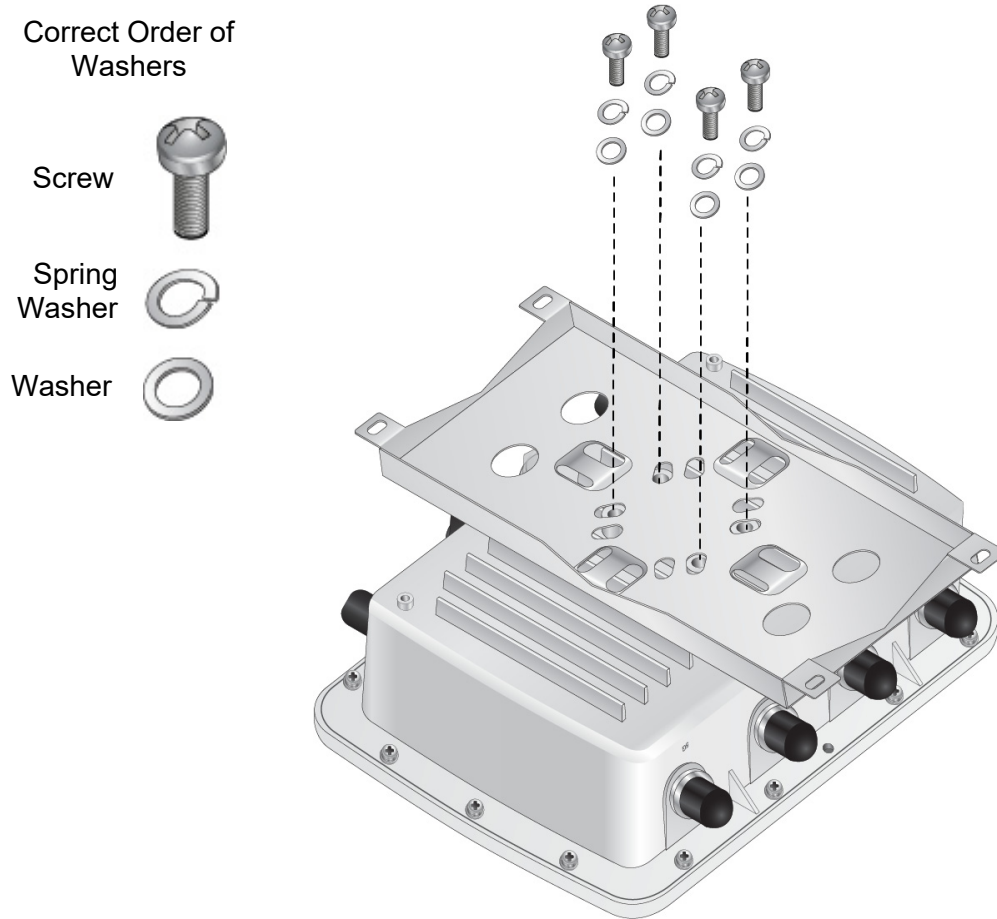

Figure 24. Attaching the Mounting Base to the Access Point
6. Attach the mounting base to the bottom of the access point with the provided screws, spring washers, and washers, using a Phillips-head screwdriver. See Figure 24 on page 54.
2. Attach the mounting base to the bottom of the access point with the provided screws, spring washers, and washers, using a Phillips-head screwdriver. See Figure 24 on page 54.